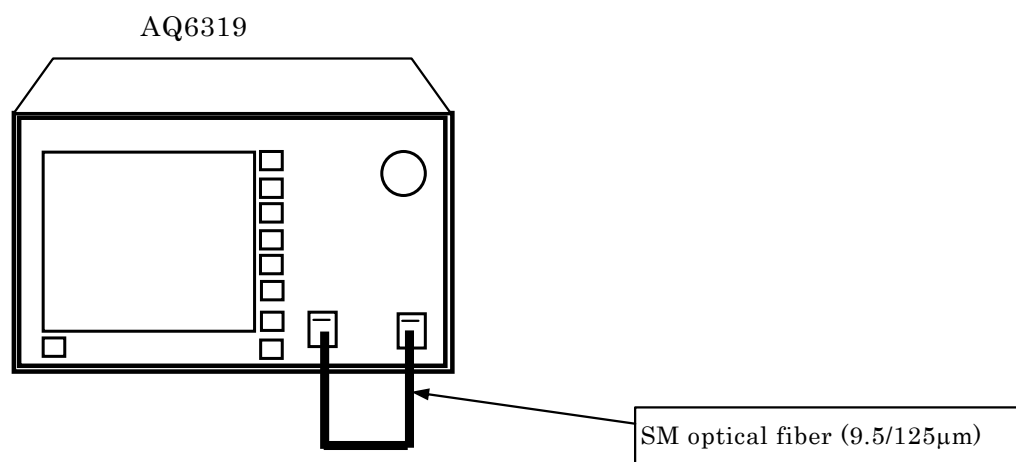

Fig. 4-5 Measurement System During Wavelength Calibration
- ② Use a 9.5/125 μm SM optical fiber to connect the unit's optical input connector with the optical output connector. (☛ See subsection 4.3.2 Connecting Optical Fibers and Fig. 4-5 Measurement System During Wavelength Calibration (using Internal Reference Light Source))